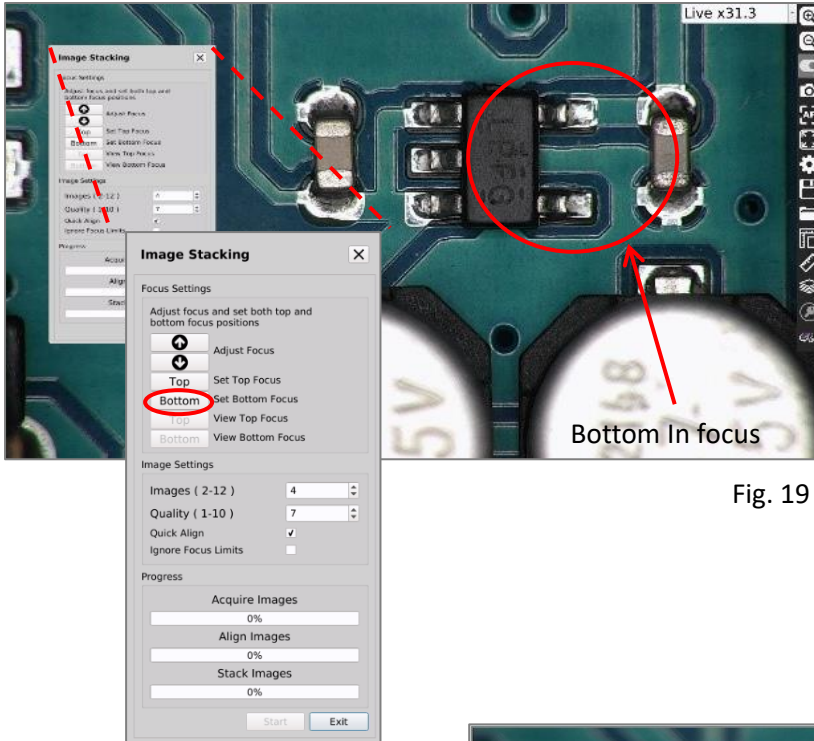

Fig. 19
2. Manually adjust the height of the camera until the bottom of the image is in focus (Fig. 19). This is done by using the height adjustment mechanism on the stand the Inspec 3 is mounted on. Click **Set Bottom Focus** and the **View Bottom Focus** button will become active.